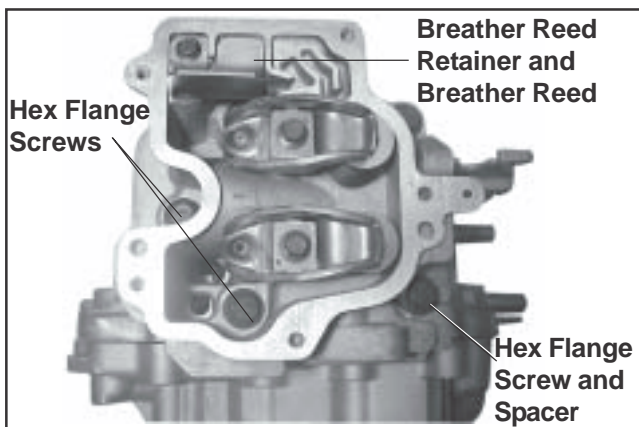

Figure 9-30. Removing Cylinder Head.
1. Remove the hex flange screws, spacer (from the screw by the exhaust port), cylinder head, push rods, and cylinder head gasket. See Figures 9-30 and 9-31. Mark the push rods for reassembly. Discard the screws. Do not reuse.